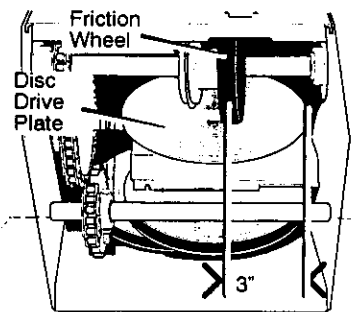

Figure 33
7. Note the position of the **friction wheel** on the **disc drive plate** (See Figure 33). In the correct position, the right outer side of the **disc drive plate** must be three inches (7.62cm.) from the center of the **friction wheel**. If the **friction wheel** is not in the correct position, adjust as follows.